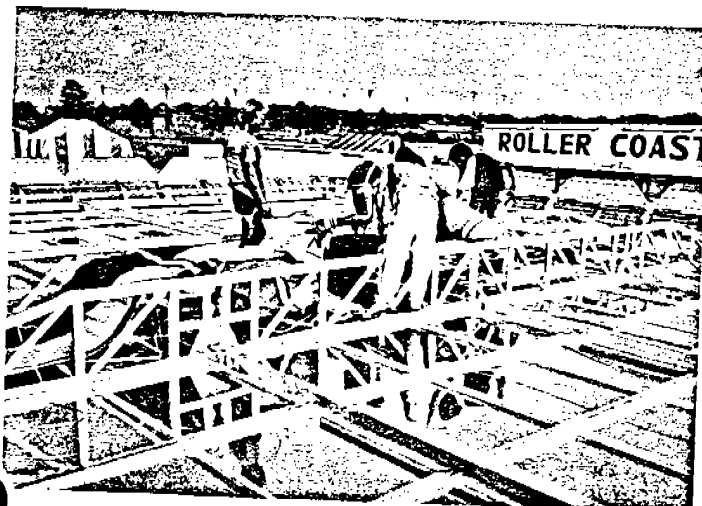

FIGURE 16
1. **SETTING CANVAS:** **NOTE:** Safety key all pins on catwalks and rafters before raising canvas. Remove canvas from canvas bag carefully. Unroll canvas down center of ride. (See Figure 16). Unfold canvas across entire panel assembly. Using the corner tool furnished, attach the four corners to catwalk. After all four corners are attached, hook all clips to canvas rod. Set center poles down through canvas into sockets and attach block and tackle to chain. It is recommended to have a helper inside canvas to place center pole securely in sockets. Once center poles are in place, pull canvas up evenly and secure. Place all quarter poles in their designated locations. **NOTE:** Center and quarter poles are color coded and must be placed in the matching color coded positions on rafters and top assembly.